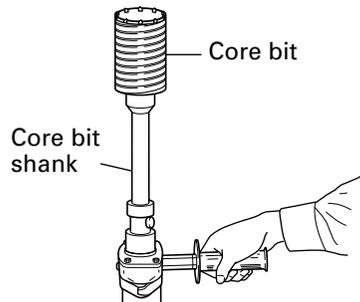

Fig. 16
3. How to dismantle the core bit (Fig. 16)